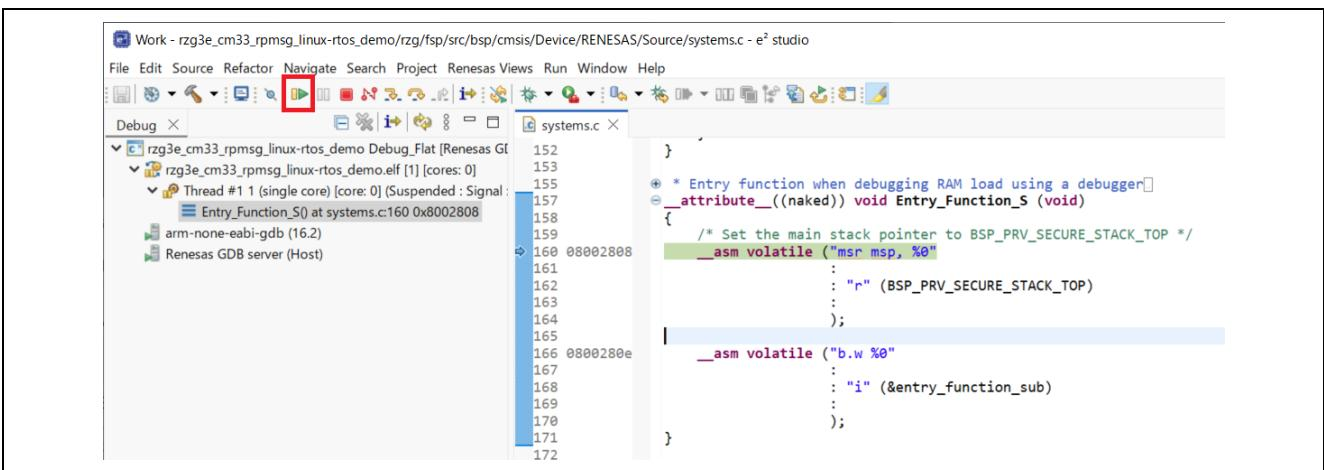

Figure 4-7. How to start to debug Sample Project (1)
3. When **Debug Perspective** is opened, Program Counter (PC) should be located at the top of **Entry_Function_S**. Then, press the button shown in Figure 4.7.